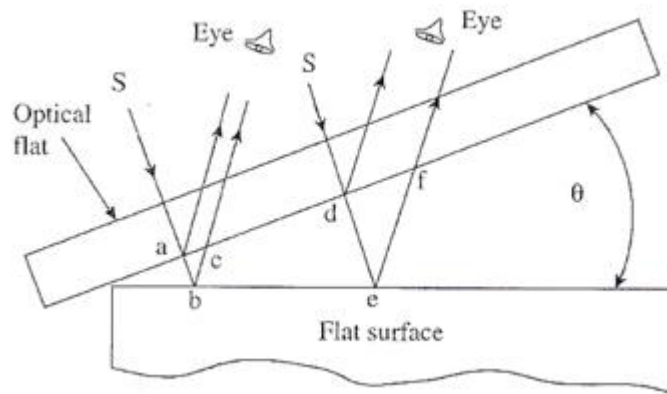

Fig.4.11 – Fringe formation in an optical flat
- ▶ The most common interference effects are associated with thin transparent films or wedges bounded on at least one side by a transparent surface. Soap bubbles, oil films on water, and optical flats fall in this category. The phenomenon by which interference takes place is readily described in terms of an optical flat, as shown in Fig. 4.11.